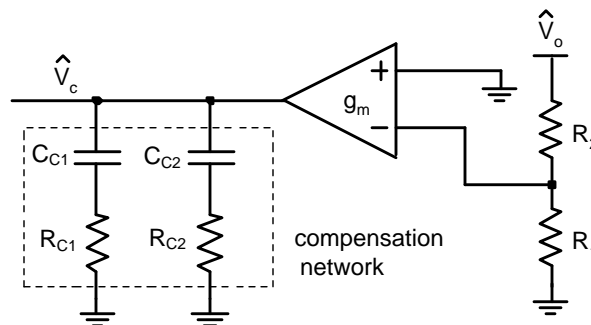

Figure 19. Compensation Network
- $R_1$  and  $R_2$  are the feedback resistors as shown in Figure 19
- (13)
The compensation network (Figure 19) will also introduce a low frequency pole which will be close to 0Hz.
A second pole should also be placed at  $f_z$ . This pole can be created with a single capacitor  $C_{c2}$  and a shorted  $R_{c2}$  (see Figure 19). The minimum value for this capacitor can be calculated by: